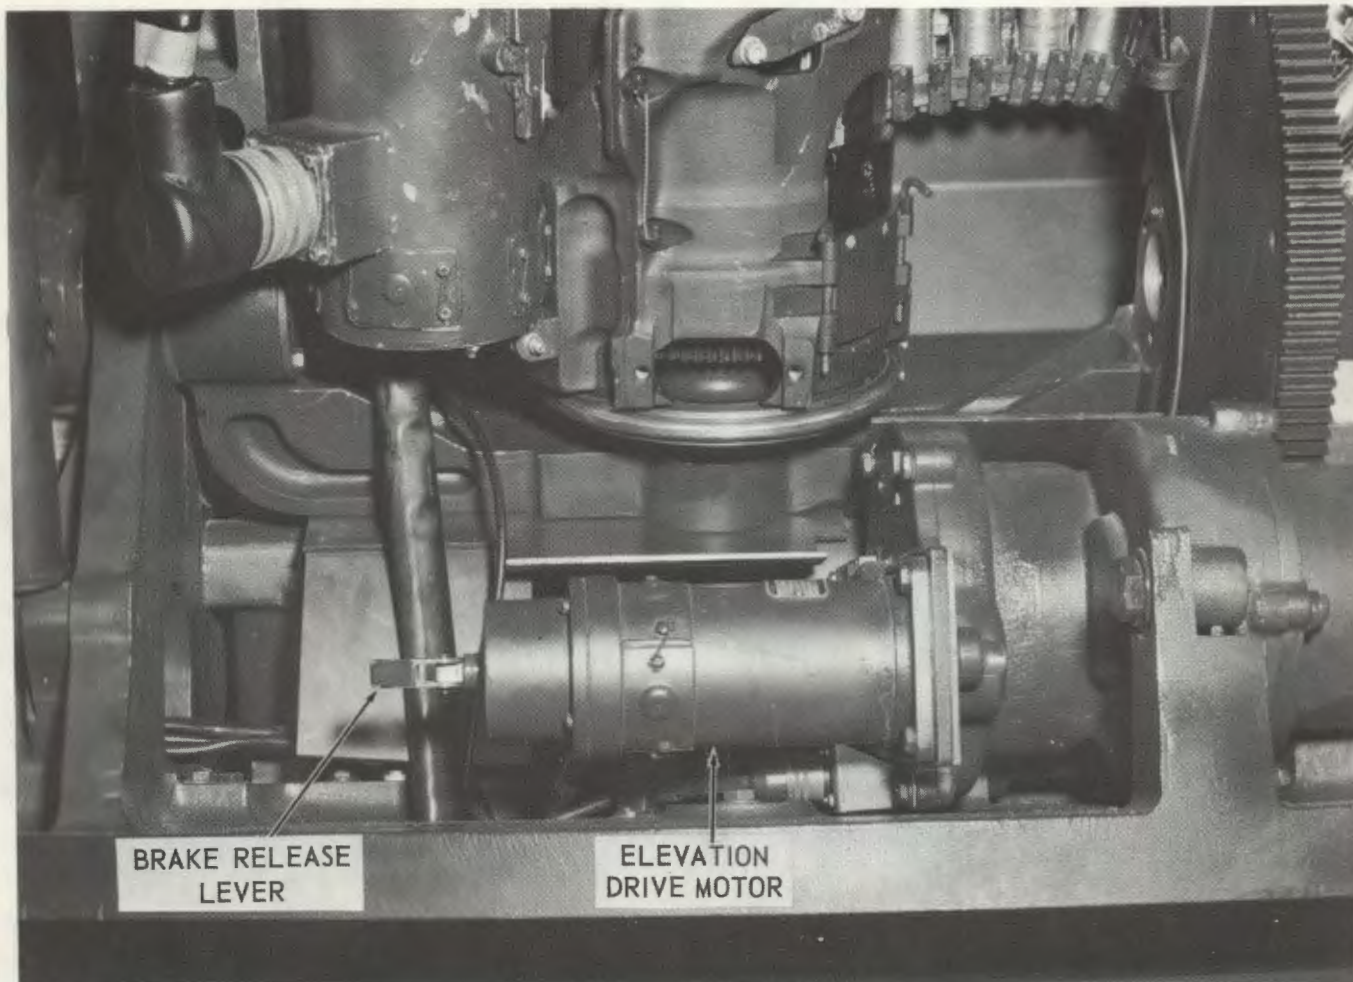

Figure 3-20. Elevation drive motor brake release lever.
k. Elevation Drive Motor Brake Release Lever (fig. 3-20). Provides a means of mechanically releasing elevation drive motor brake.